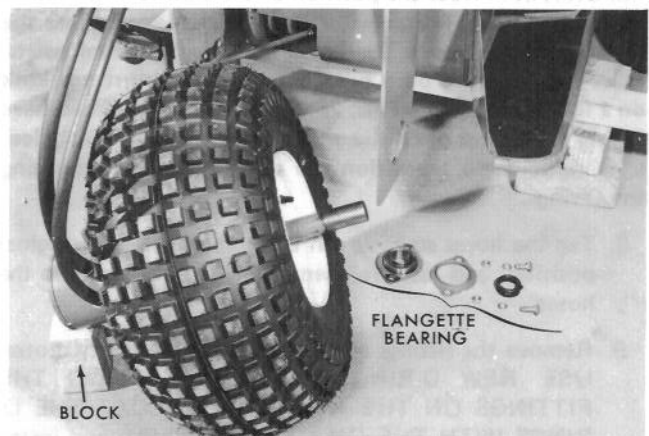

Figure 23
5. Remove the flange bearing. Remove the three cap-screws holding the wheel motor bracket to the right side of the fork (Fig. 23).